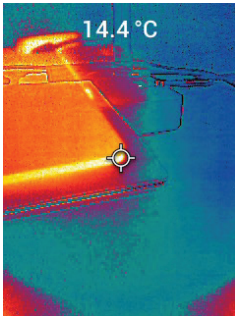

Figure 4.1 Combined Thermal and Visible Image (MSX®)
6. The temperature reading on the display represents the measurement of the targeted spot. See **Figure 4.1**.